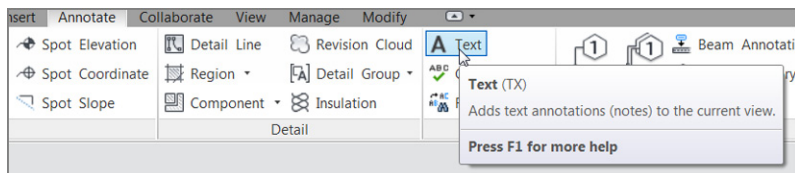

FIGURE 5.47: Click the Text button on the Text panel of the Annotate tab.
3. On the Text panel of the Annotate tab, click the Text button, as shown in Figure 5.47.